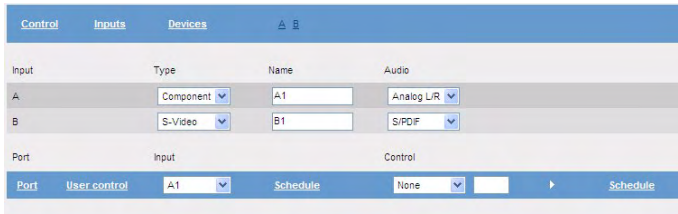

FIG. 5 Input Configuration page
1. Select the **Inputs** link at the top of the *Status* page to invoke the *Input Configuration* page (FIG. 5).